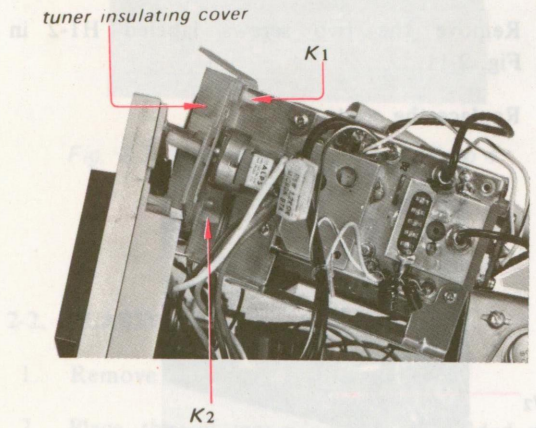

Fig. 2-13. Volume control removal, Step 6
6. Remove two white plastic clips labeled K1-2 in Fig. 2-13.